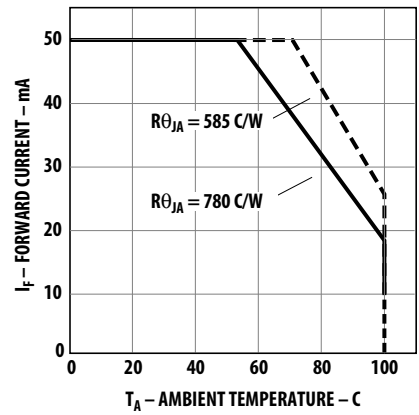

Figure 4. Maximum forward current vs. ambient temperature. Derating based on  $T_{JMAX} = 130^\circ\text{C}$ .
1. Derate linearly as shown in Figure 4.